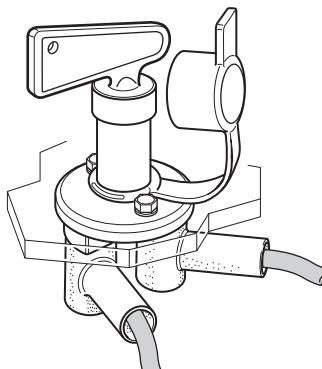

Fig. 51
- Slide protective rubber caps on to connection screws (Fig. 51.)